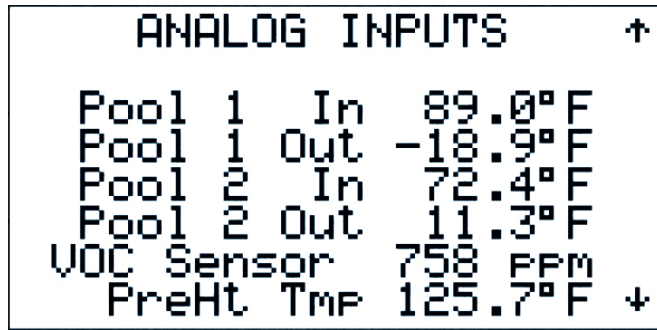

Figure 87
2.3.3.3.3 Digital Outputs (Binary) (Figures 87 - 93)